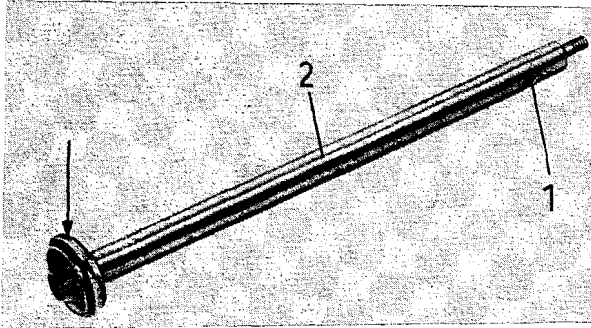

Fig. 112. Checking the supporting tube
- Check the supporting tube (2) (Fig. 112) for damage. No scores must be visible on the sealing surface of the Miramid piston ring (arrow-head) otherwise the damping pressure will be too low. The damping hole (1) of the supporting tube must be free from burr and its diameter must not be changed;
- The supporting tube (2), Fig. 112, is pushed into the checked guide tube (A) from below (valve side); prior to this, the Miramid piston ring is fitted with shock-absorber oil.